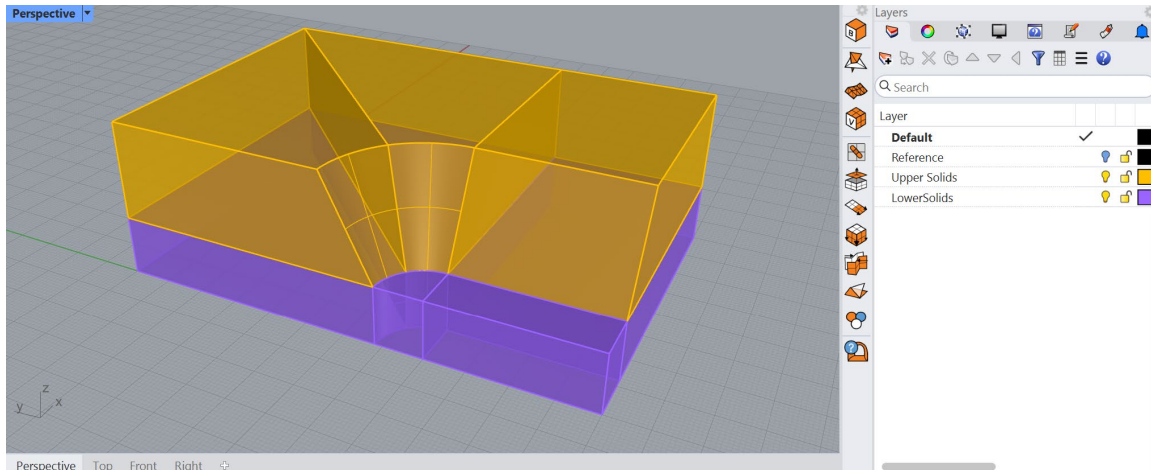

Figure 48: The model after the “Upper solids” and “Lower solids” layers have been specified (Ghosted view).
23. Create new layers "Upper solids" and "Lower solids" in the *Layers* panel. Assign distinct colors to these layers. Select only upper solids and assign them to the layer "Upper solids". Complete the same for the lower solids (Figure 48).